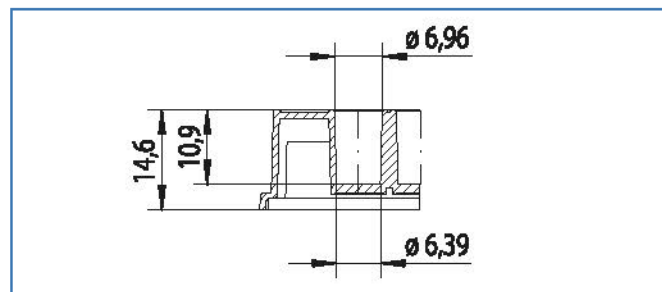

Figure 3:
3. F-Bottom/Standard (ST) (Fig. 3)